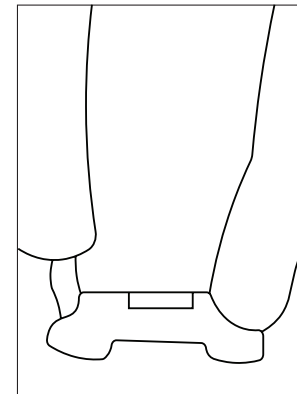

Fig. 6
1. Remove the plastic dropout protector from the metal shipping axle (**Fig. 6**).